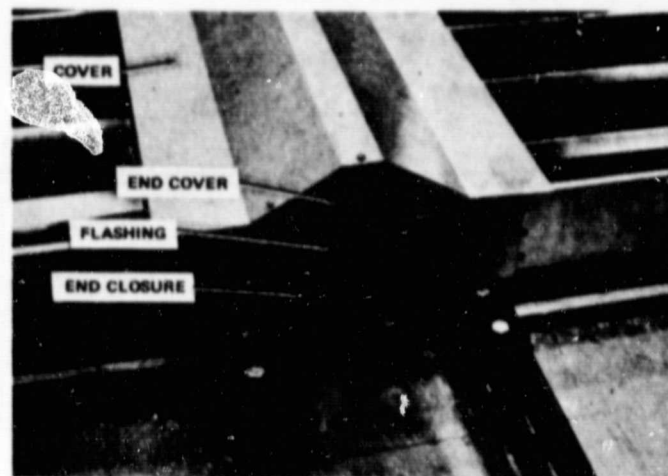

Figure 5-11. Install Cover
2. Install the cover, (Figure 5-11), by hooking the lip over the top of the upper collector transition section cover and push on the center of the cover to snap the bottom lip in place over the bottom transition cover. Screw onto the end covers.